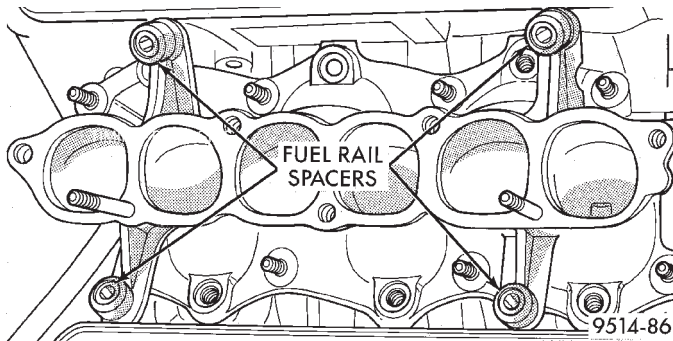

Fig. 28 Fuel Rail Spacers
- (18) Lift fuel rail off engine. **There are spacers under each fuel rail bolt (Fig. 28).**
- (19) Remove lower intake manifold attaching bolts. Remove intake manifold.